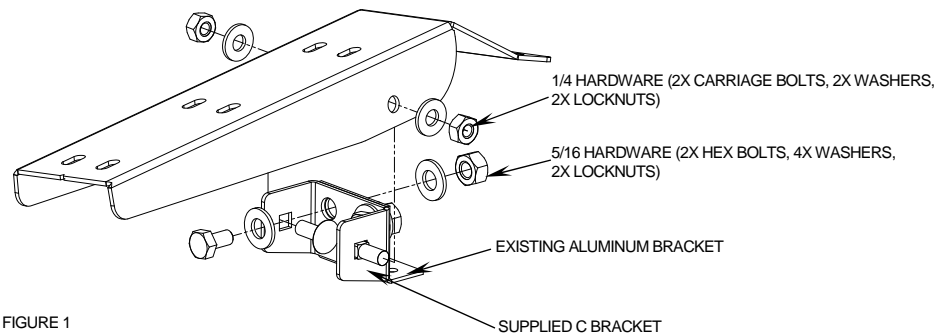

FIGURE 1
4. Fasten supplied C bracket to existing aluminum bracket on cab roof using 5/16-18 x 3/4 hex head bolts, 5/16 washers and 5/16-18 locknuts leaving loose to allow for adjustment. Ensure that bolt heads are to the inside of the C bracket. (Figure 1)
5. Install centre visor bracket onto C bracket as shown. (Figure 1)